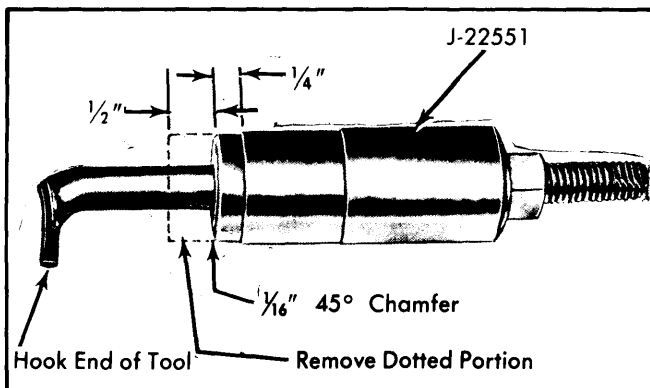

Fig. 13 Reworked Shift Tube Removal Tool
7) Rework a shift tube removing tool (J-22551) by removing  $\frac{1}{2}$ " from pilot end of tool as shown in Fig. 13. Remove shift tube assembly using reworked tool as follows: Insert hooked end of tool into notch in shift tube just below shift lever housing key. Pilot sleeve over threaded end of tool and into upper end of shift tube. Force shift tube out of housing by turning nut onto the tool. If shift tube is not completely free when nut is bottomed on its threads, complete removal by hand. **CAUTION** — Do not hammer on shift tube during removal. On column shift models, guide lower shift lever through slotted opening in column to prevent damage to tube or column.